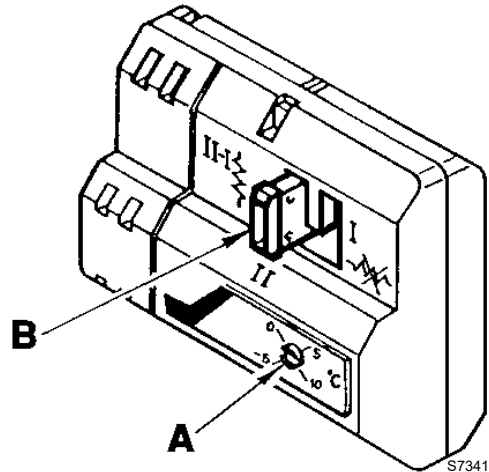

Fig. 26
- 2 In relation of the position of the plug **B** (Fig. 26), it determines the type of required operation:
In this case the setting screw **A** (Fig. 26) is not necessary.
The external temperature causing the economizer intervention might be chosen between -5 °C and +10 °C, turning the setting screw **A** (Fig. 26) using the screw-driver.
For this type of operation the plug **B** (Fig. 26) has to be placed in the position **I-II**.